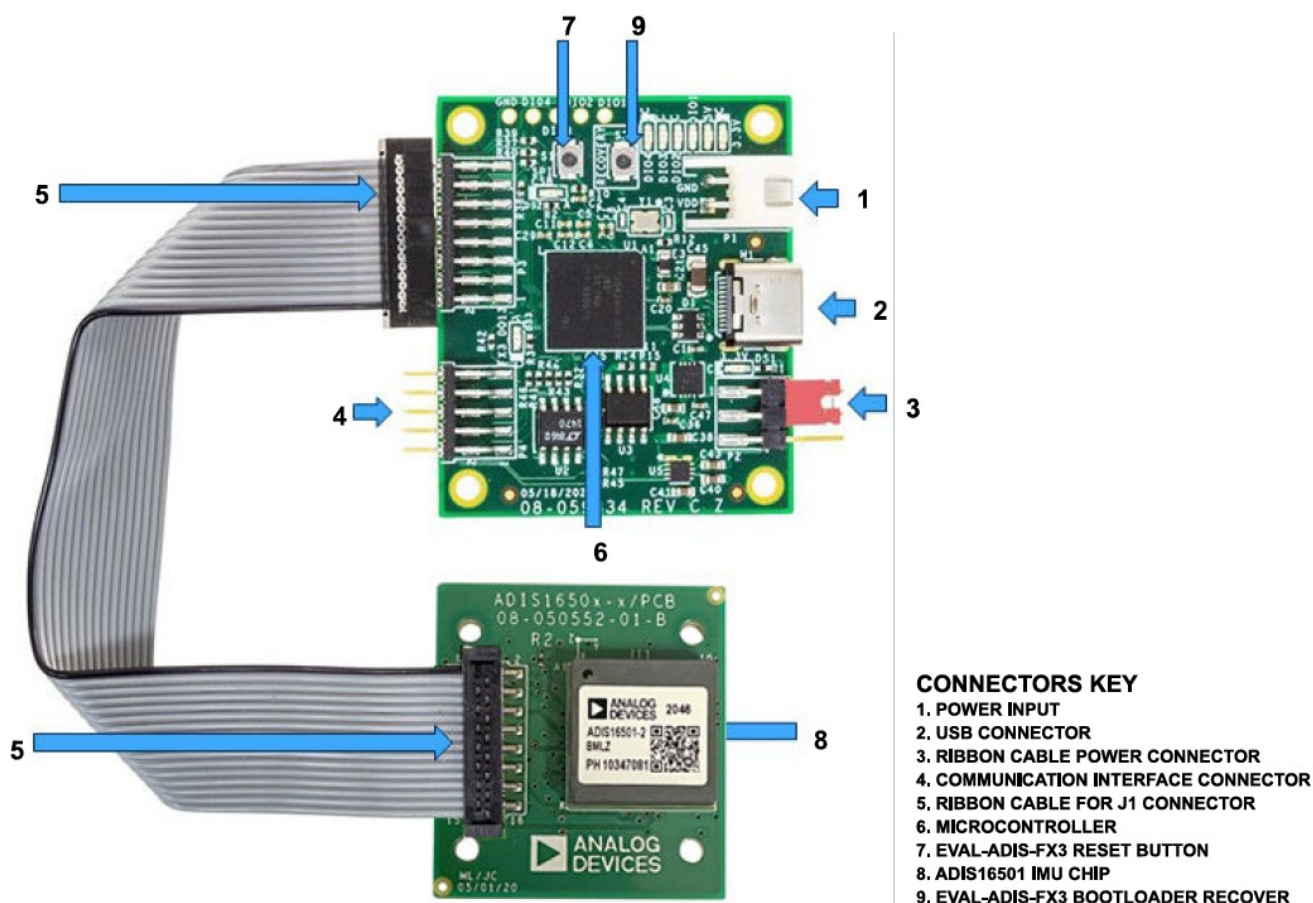

Figure 5. ADIS16501-2/PCBZ and EVAL-ADIS-FX3 Connections
See Figure 5 and Table 2 for the general identification based on standard electronic components and board design.
- Data acquisition and transfer. The ADIS16501-2/PCBZ breakout board utilizes the microcontroller or processing unit (see Number 6 in Figure 5) to manage the flow of data from the ADIS16501 IMU chip (see Number 8 in Figure 5). The microcontroller processes the raw sensor data in real-time, filtering and converting the data into usable formats.
- Communication interfaces. Data from the ADIS16501 IMU can be sent to other systems or devices using different connectors. For direct data transfer to computers, use the USB connector (see Number 2 in Figure 5) with the ADIS16501-2/PCBZ and EVAL-ADIS-FX3 connections.